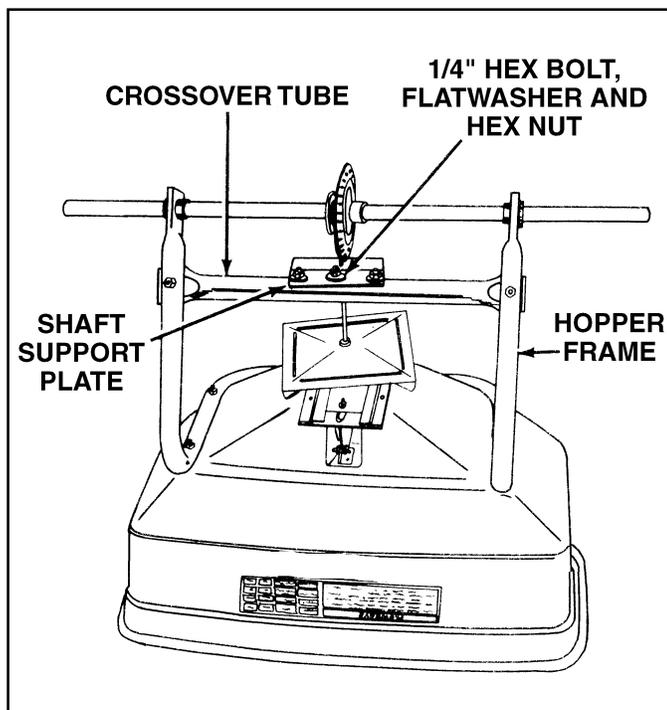

FIGURE 3
2. Turn the spreader upside down as shown in figure 3, so that it rests on the hopper.
3. Remove the 1/4" hex bolt, flat washer and hex lock nut from the center of the crossover tube and shaft support plate. See figure 3.
5. Assemble short end of hitch tube to the crossover tube (on opposite side from shaft support plate). Fasten to the center hole in the crossover tube using the 1/4" x 1-1/2" hex bolt, the 1/4" flat washer and the 1/4" hex lock nut removed in step 3. See figures 3 and 4. **DO NOT TIGHTEN AT THIS TIME.**